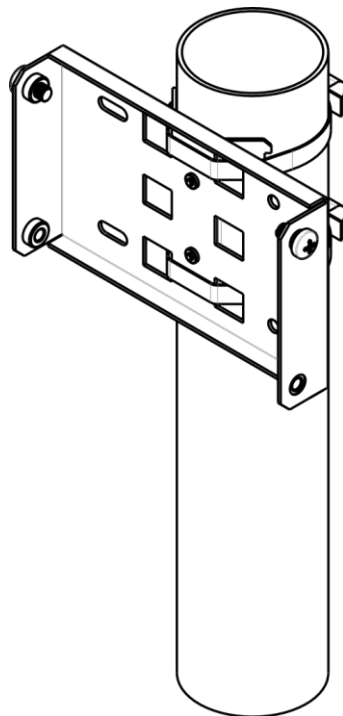

Figure 9 – Mounting bracket on a pole
- a. Fix bracket on pole by using clamps, see Figure 9.
- b. Install DIN7985 M6 screws in the top holes. Do not screw them fully. Leave 3 mm gap as minimum, see Figure 9.